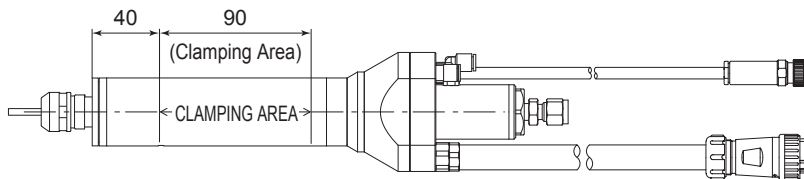

Fig. 22
(1) When mounting a Brushless Motor Spindle, refer to the Clamping Area etched on the Brushless Motor Spindle (Fig. 22).